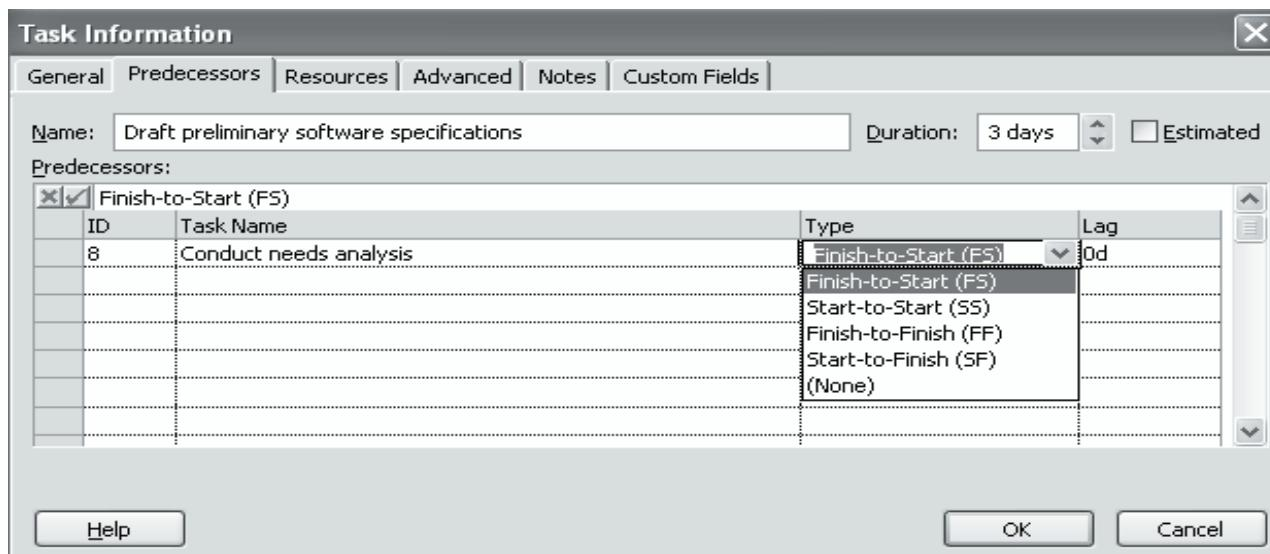

Figure 5.8: Modifying Dependency Relationships
4. Select the Predecessor **Task Name** and select the **Type** from the drop-down list as shown in figure 5.8.